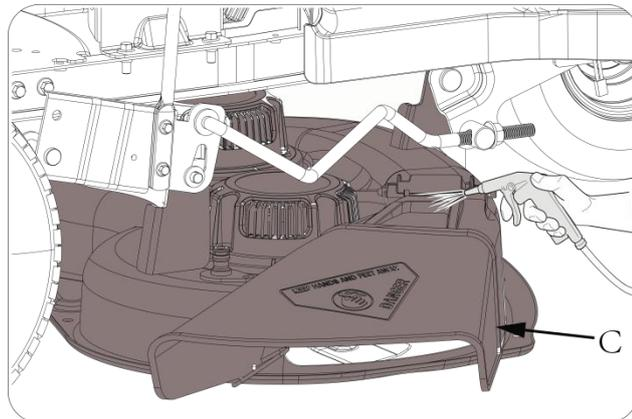

Figure 5.4
- blow a jet of compressed air over the upper part of the assembly (fig. 5.4.C).